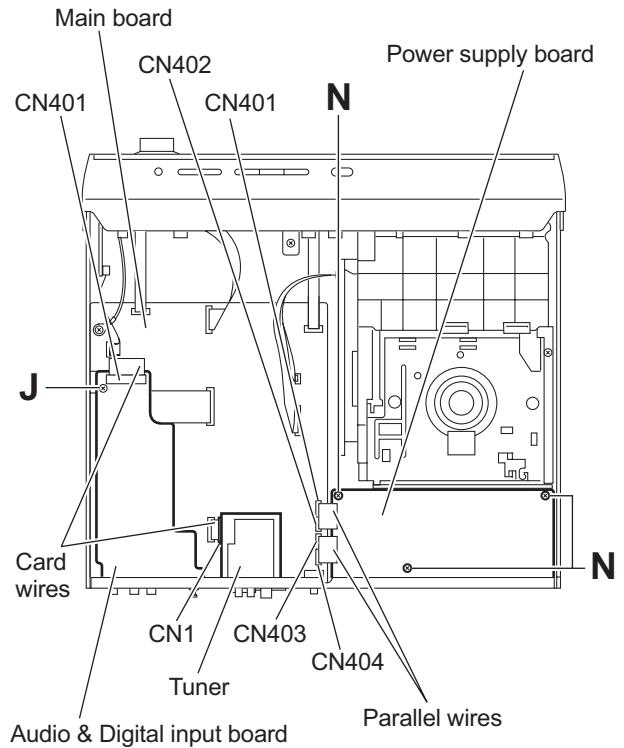

Fig.9
(See Figs.9 and 10)
- (1) From the top side of the main body, disconnect the card wire from the connector CN401 on the audio & digital input board. (See Fig.9.)
- (2) Remove the screw **J** attaching the audio & digital input board. (See Fig.9.)
- (1) From the top side of the main body, disconnect the card wire from the connector CN1 on the tuner. (See Fig.9.)
- (1) From the top side of the main body, disconnect the parallel wires from the connectors (CN401 to CN404) on the main board. (See Fig.9.)
- (2) Remove the three screws **N** attaching the power supply board. (See Fig.9.)